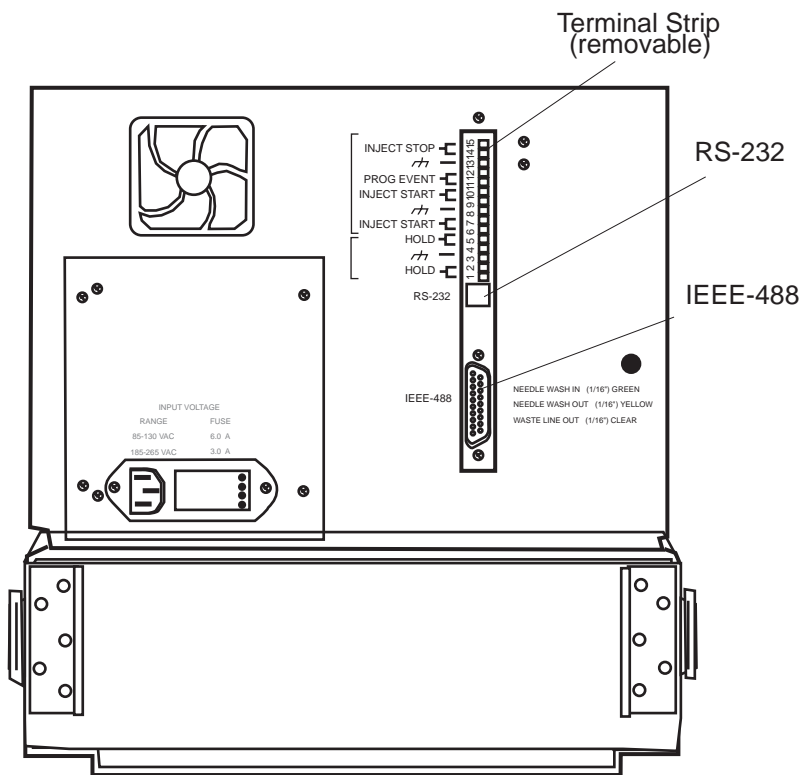

Figure 2-8 Autosampler Rear Panel
The 717plus autosampler communicates with other LC system components via the following connections on the rear panel of the autosampler (Figure 2-8):
Refer to Figure 2-8 while performing the following procedures.
1. To facilitate making connections, remove the terminal strip from the rear panel (see Figure 2-8).